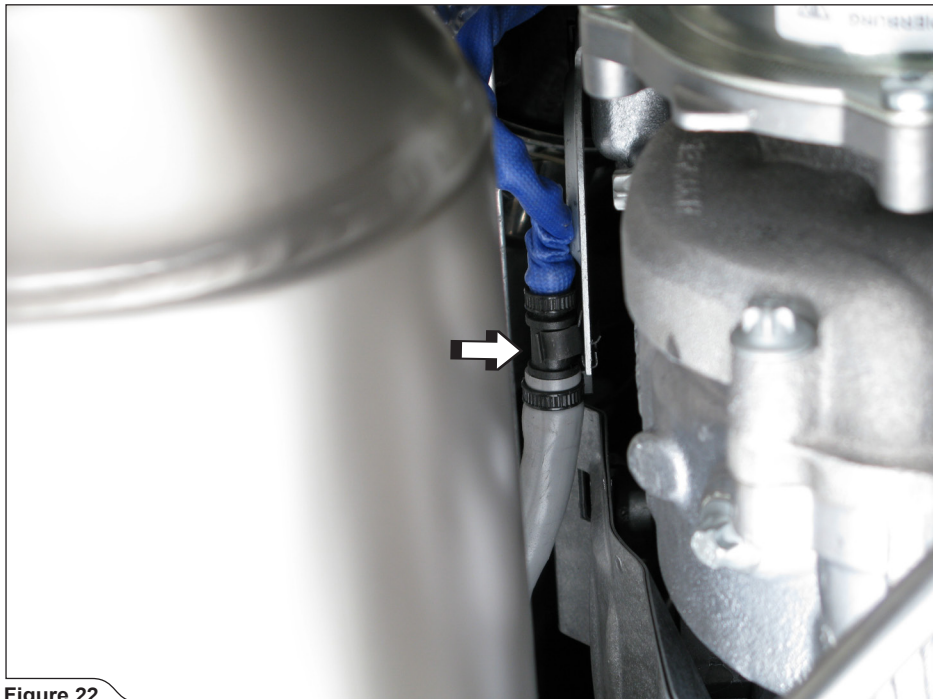

Figure 22
7. For Slip-On Race, Evolution Race and Upgrade Kit1/2: install lambda sensor's electrical leads into stock brackets on both sides of the vehicle (Figure 22).